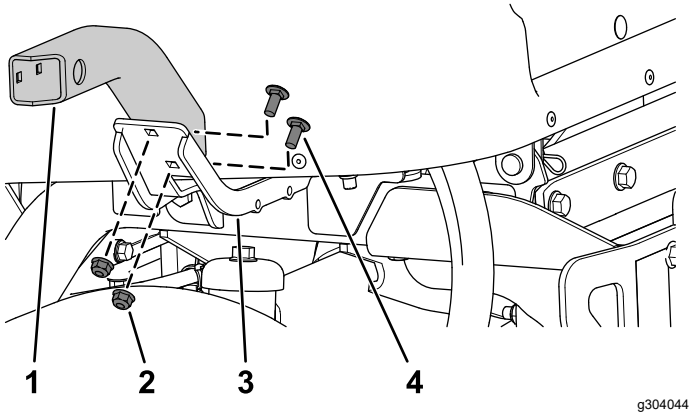

Figure 23
- Secure the left short mount and right short or long mount to the left mount and right mount using 4 carriage bolts (5/16 x 3/4 inch) and 4 flange nuts (5/16 inch) as shown in Figure 23.